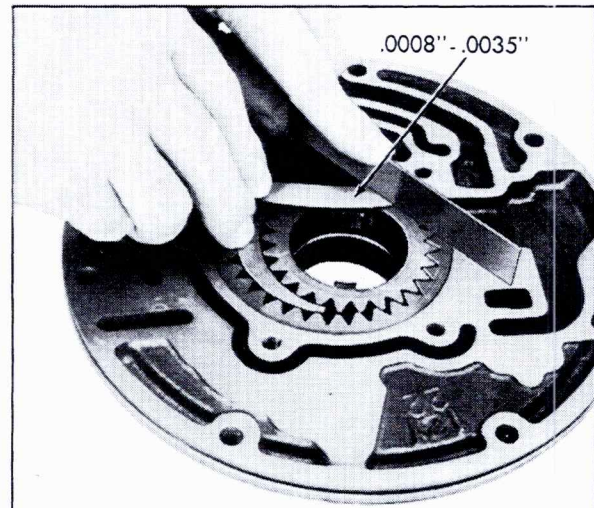

Fig. 7-72 Pump Body Face to Gear Face Clearance
2. Place pump gears in pump body and check pump body face to gear face clearance. Clearance should be .0008 inch - .0035 inch, Fig. 7-72.